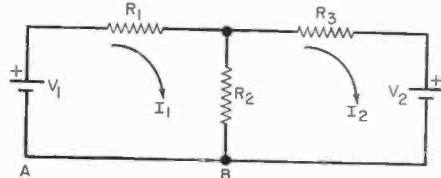

Fig. 7
**Ex. 8.** Figure 7 shows a two-mesh or two-loop network with the assumed clockwise direction of current flow in each mesh indicated. Write the necessary equations to solve for the two currents. *Sol.* For the first mesh, beginning at point A, the voltages are  $-V_1 + (R_1 + R_2)I_1 - R_2I_2 = 0$  (Eq 1). For the second mesh, starting at point B,  $-R_2I_1 + (R_2 + R_3)I_2 + V_2 = 0$  or  $-V_2 = -R_2I_1 + (R_2 + R_3)I_2$  (Eq 2). Equations (1) and (2) constitute a pair of simultaneous equations. Terms  $R_1 + R_2$  and  $R_2 + R_3$  are the *self resistance* of meshes 1 and 2, respectively; term  $R_2$  is the *mutual resistance* linking the two meshes.
**Ex. 9.** If, in Ex. 8,  $R_1 = 1 \text{ ohm}$ ,  $R_2 = 2 \text{ ohms}$ ,  $R_3 = 4 \text{ ohms}$ , and  $V_1 = V_2 = 6 \text{ V}$ , solve for  $I_1$ ,  $I_2$ , and the voltage across each resistor. **Sol.** Substituting the given values in Eqs (1) and (2), we get  $6 = 3I_1 - 2I_2$  (Eq 3) and  $-6 = -2I_1 + 6I_2$  (Eq 4). Equations (3) and (4) may be solved for  $I_1$  and  $I_2$  in a number of ways. If, for example, we multiply Eq (3) by 3 and add the result to Eq (4), we have  $12 = 7I_1$ , or  $I_1 = 12/7 \text{ A}$ . Substituting this value in Eq (4) and solving,  $I_2 = -3/7 \text{ A}$ . The negative sign denotes that  $I_2$  actually flows in a direction opposite to that assumed in Fig. 7. The voltage across  $R_1$  is  $V = (12/7)1 = 12/7 \text{ V}$ ; across  $R_2$ ,  $V = (12/7 + 3/7)2 = 30/7 \text{ V}$ ; and across  $R_3$ ,  $V = (-3/7)4 = -12/7 \text{ V}$ .